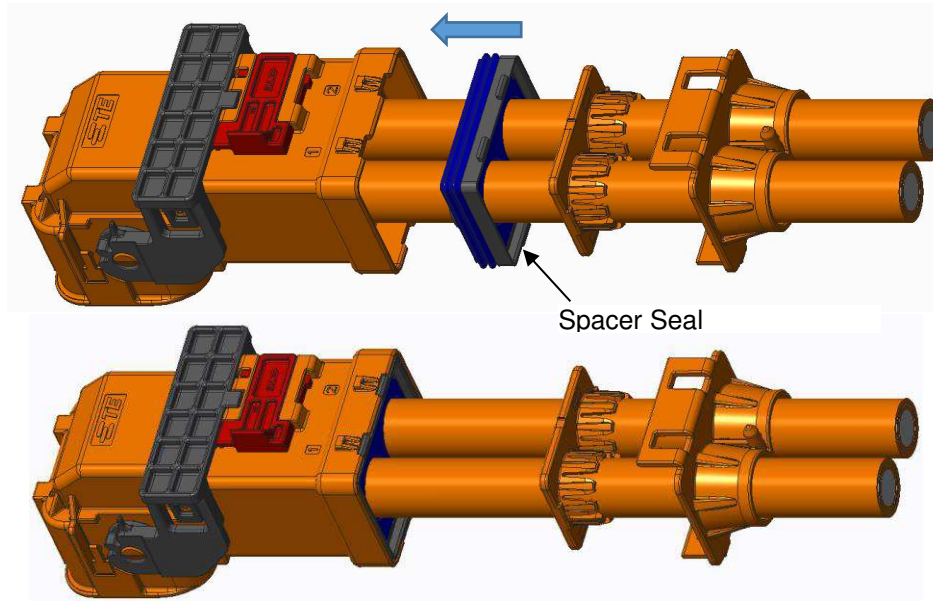

Figure 10: Spacer Seal Assembly
- Slide the spacer seal forward on the cable and into the cable exit end of the plug sub-assembly until it stops against the inside of the plug sub-assembly as shown in Figure 10.